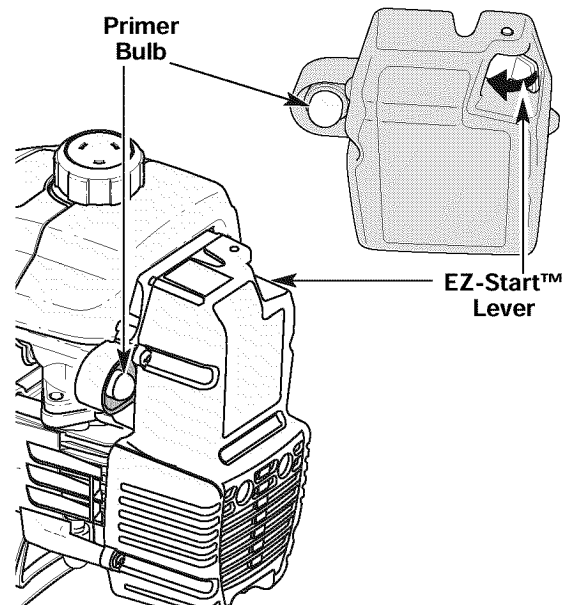

Fig. 8
3. Fully press and release the primer bulb 10 times, slowly, until **FUEL IS VISIBLE IN THE PRIMER BULB** (Fig. 8). If you can't see fuel in the bulb, press and release the bulb as many times as it takes before you can see fuel in it.
4. Push the EZ-Start™ Lever to the left until it clicks and locks into place (Fig. 8).
6. When the engine starts, squeeze the throttle control to warm up the engine for 5 to 10 seconds. The EZ-Start™ Lever will click off automatically (Fig. 8).